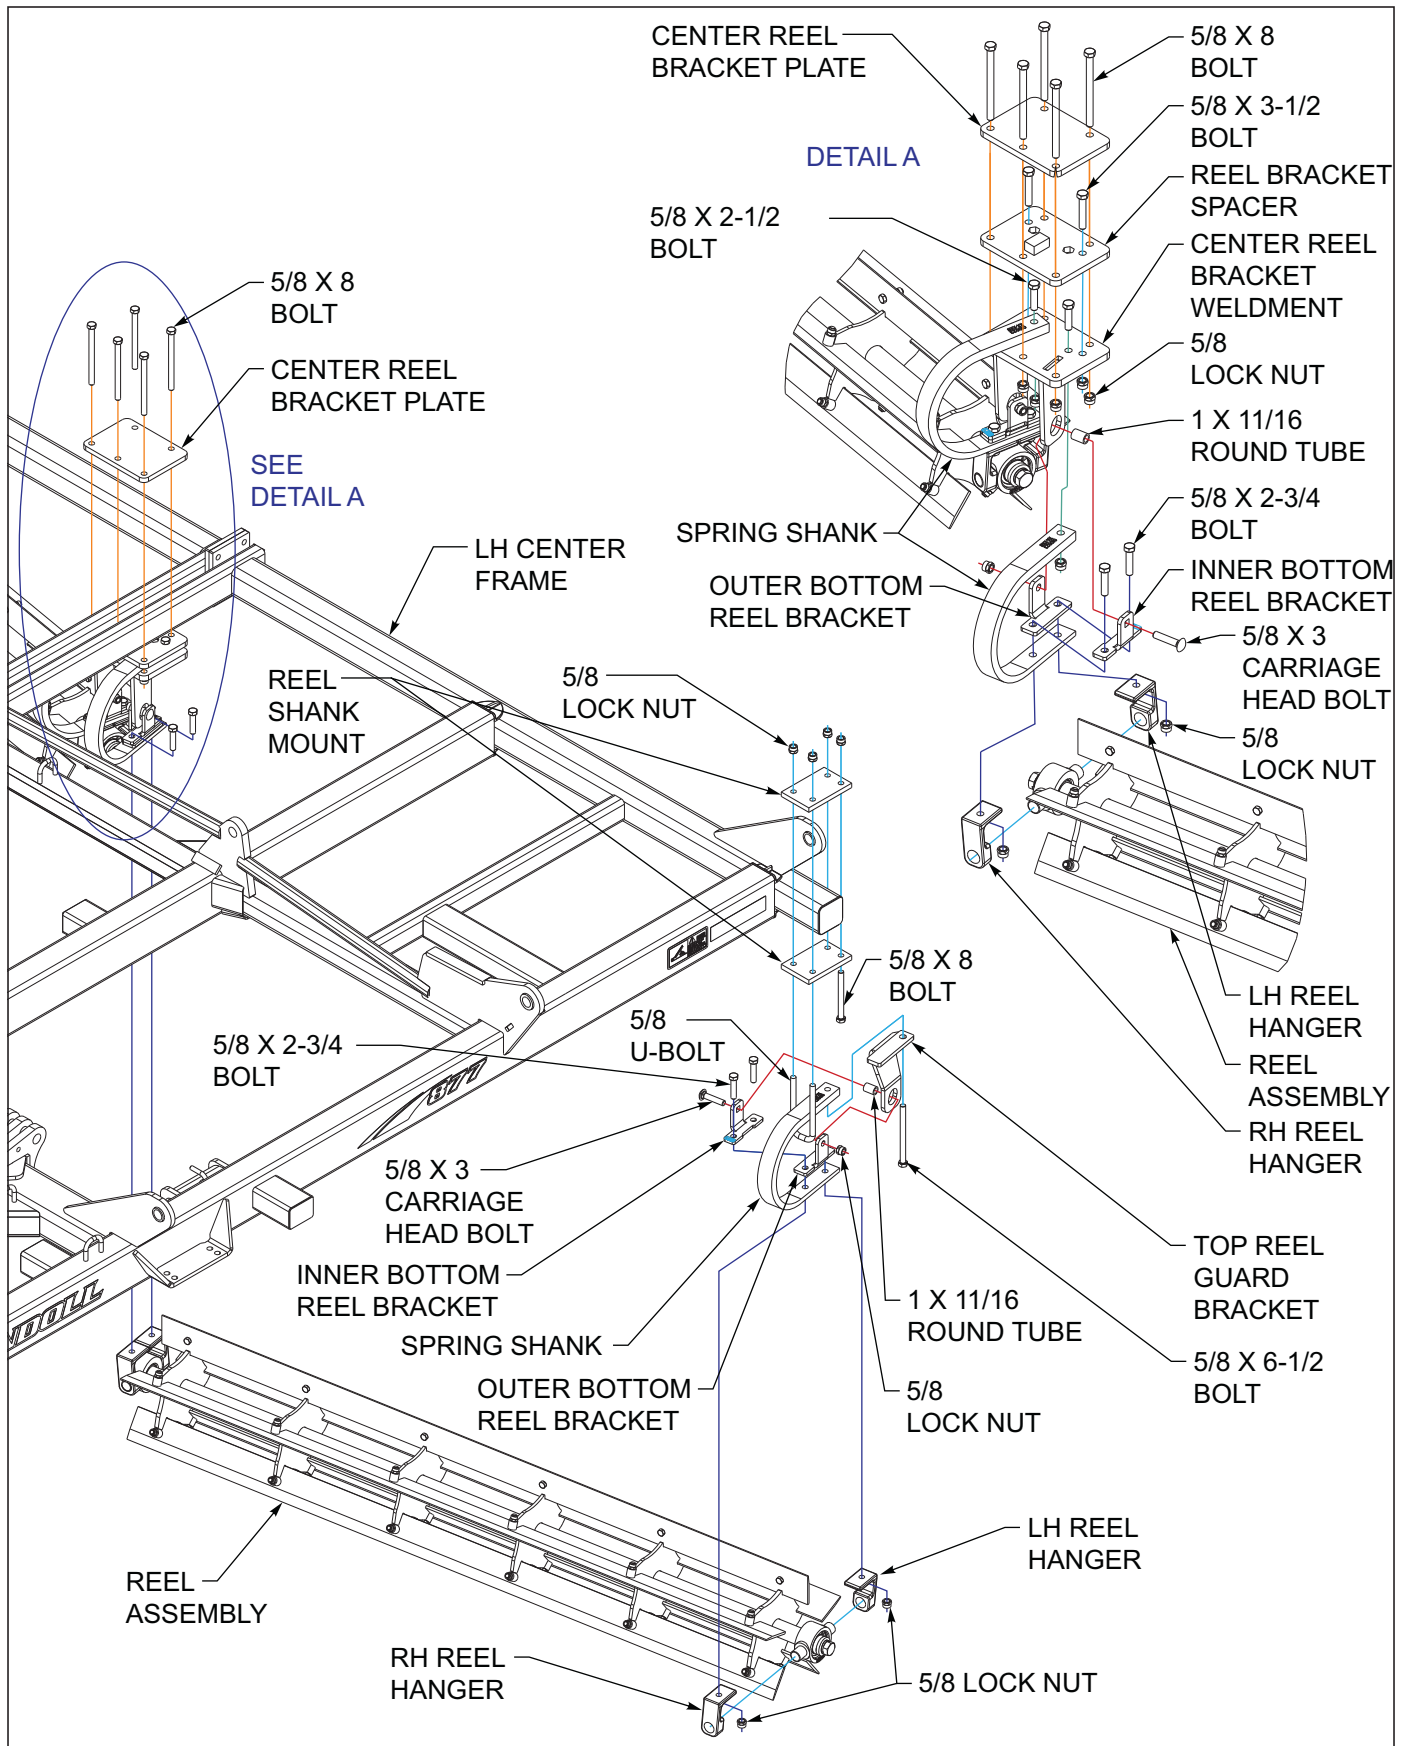

Figure 3-26: Reel Assembly
- b. The inner reel bracket (with square hole) must be placed toward the reel blades See *Figure 3-26*.
- h. Carefully lift reel assembly and loosely bolt top reel bracket plate to frame as shown in See *Figure 3-26* using 5/8 x 8 bolts and 5/8 lock nuts See *Figure 2-18* through *2-23* for location on frame.
- a. Set inner bottom reel bracket on top of outer bottom reel bracket and loosely attach to top reel guard bracket using 5/8 x 3-1/4 round head square neck screw, round tube spacer, and hex lock nut. The inner reel bracket (with square hole) must be placed toward the reel blades See *Figure 3-26*.